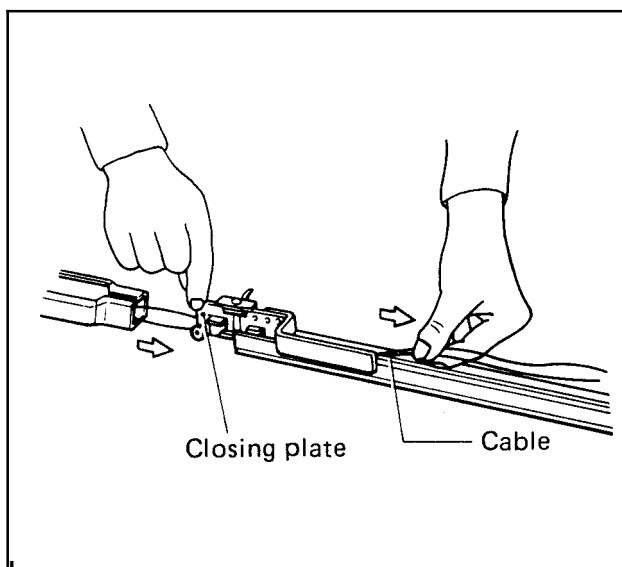
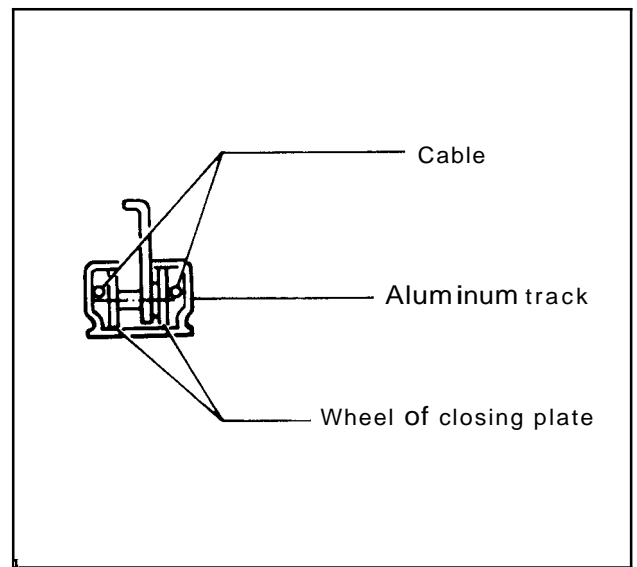

Fig. 15
Fig. 16
3. Starting at the motor pulley housing end, lay the cable into the aluminum track about 4" making sure it is not twisted. While gently applying tension (pulling) on the cable, insert the closing plate into the track. (Fig. 15) Be sure to keep the cable on the outside of the wheels. (Fig. 16) Attach motor and end pulley housings to ends of track. Make sure the track is butted up to the stops inside the housings. Reinstall securing plates to motor pulley and end pulley housings.